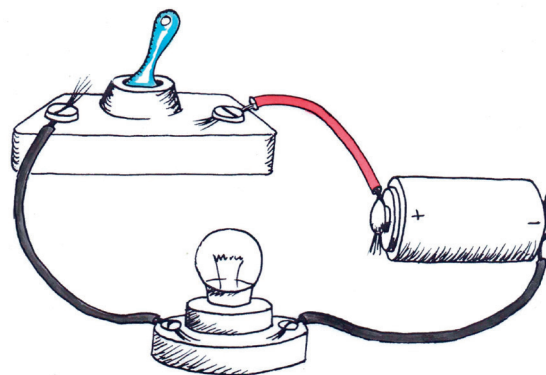

Figure 5
3. Now try the circuit in Figure 5.